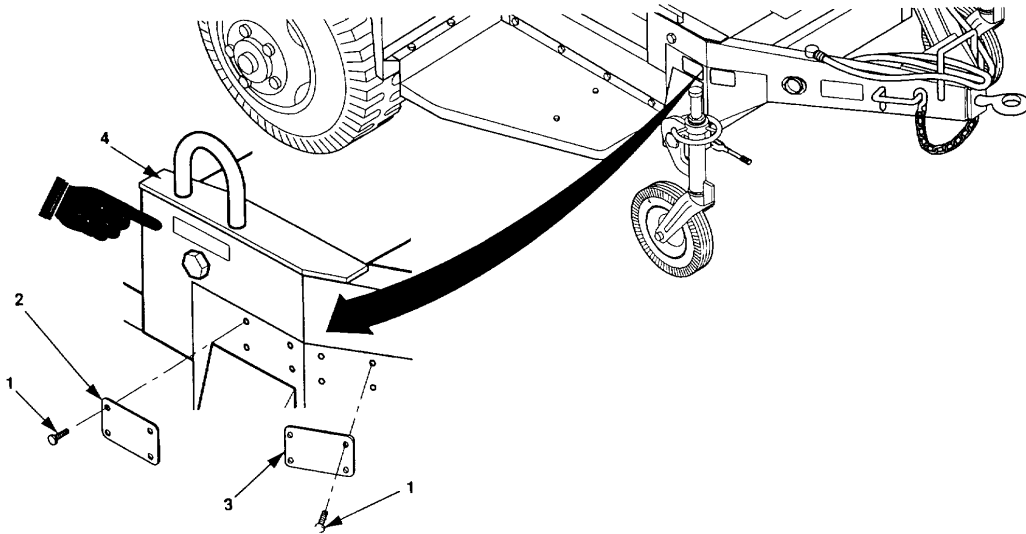

Figure 4-23. Data and Identification Plate Replacement.
4-34. Data and identification Plate Replacement. (See figures 4-23 and 4-23 1). There are two data/identification plates on the front curbside trailer frame and one data plate on the front roadside trailer frame. Replacement procedures for each are the same, except for the quantity of attaching hardware.
- (1) Remove four drive screws (1, figure 4-23) and remove data/identification plate (2 or 3) from trailer (4).
- (1) Position data plate (2) on trailer and secure with four drive screws (1).
- (2) Position data/identification plate (2 or 3, figure 4-23) on trailer and secure with four drive screws (1).